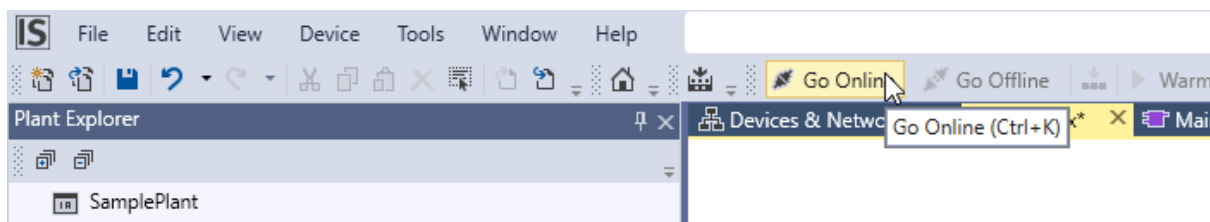

Figure 2-8 Go Online toolbar button
- 1- Click on the Go Online toolbar button or press Ctrl+K simultaneously in order to connect the device. See figure 2-8.